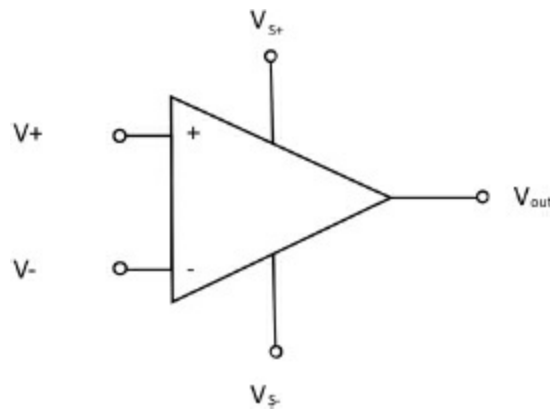

FIGURE 15.1 Op-amp symbol on a circuit board diagram.
LAB FIGURE 15.1 (I) Schematic of our lab circuit.
LAB FIGURE 15.1 (2) How to find pin 1 on a 7448 decoder.